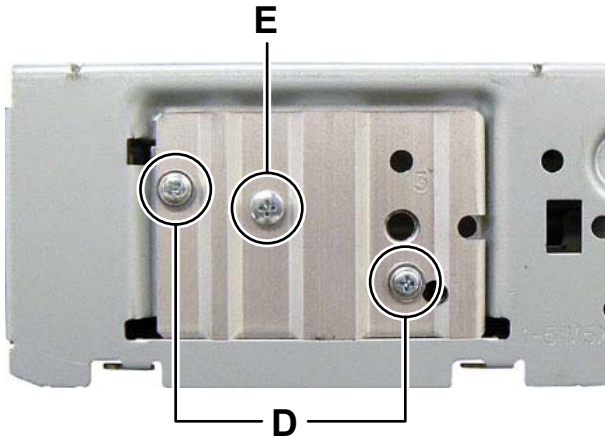

Fig.4
3.1.3 Removing the Main board (See Fig.4 to 6)
- (1) Remove the two screws **D** and one screw **E** attaching the Side panel. (See Fig.4)